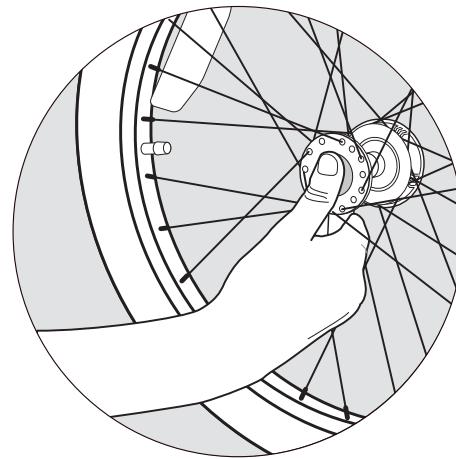

Figure 5
1. Push in the rubber button on the outside of the wheel hub (Figure 5).